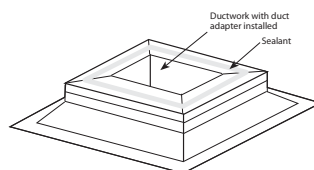

Figure 4 – Applying Sealant
4. Before installing supply unit, apply a sealant around the perimeter of the supply duct to isolate the fan and minimize vibration. See Figure 4.